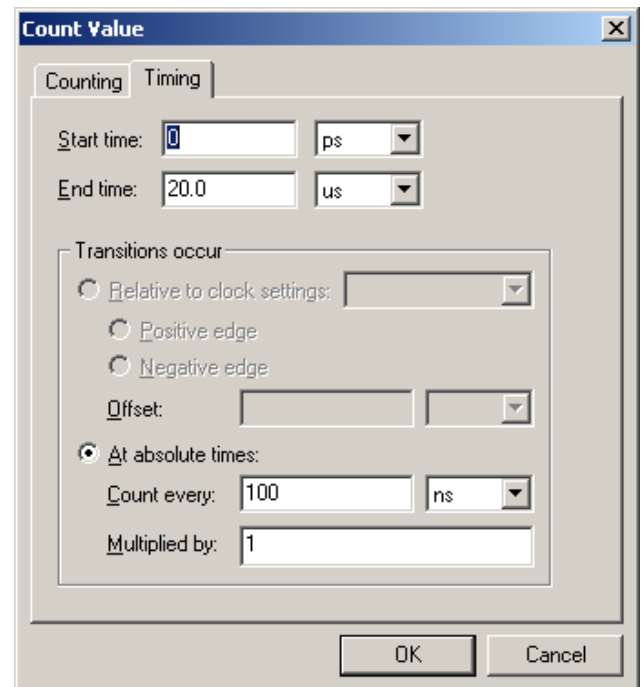

Figure 6: Count value timing increment.
**Very Important Note:** The ROMs are very slow. Therefore when you simulate you should change the smallest increment of time to about 100ns and the end time to at least 20μs (where micro seconds in Quartus is selected with "us"). You can increase the simulation end time by selected "Edit | End Time ..." and entering the desired end time. To set the count time, select the address to use "Count Value" go to the "Timing" menu and change the "Count every" entry to 100ns. This window is shown in Figure 6.